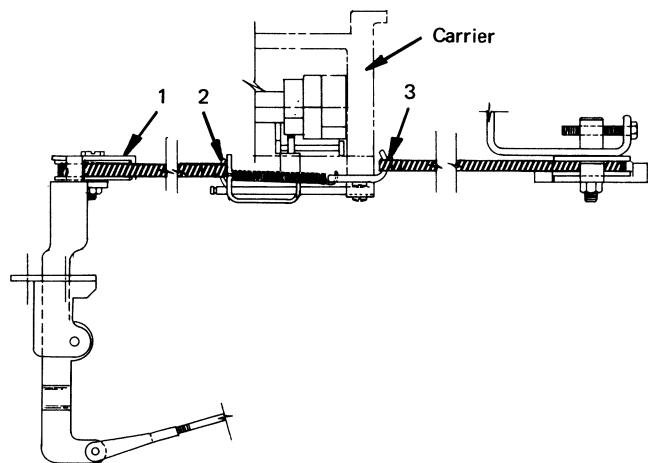

Figure 4-5. Velocity Tape Replacement (Front View)
4. Remove the left-hand pulley tape guard (snaps off) (No. 1, Figure 4-5).
5. Hook the left-hand end of the tape on the velocity shift yoke (No. 2, Figure 4-5).
6. Feed the tape around the pulleys and hook the right-hand end on the tab cord anchor bracket (No. 3, Figure 4-5).